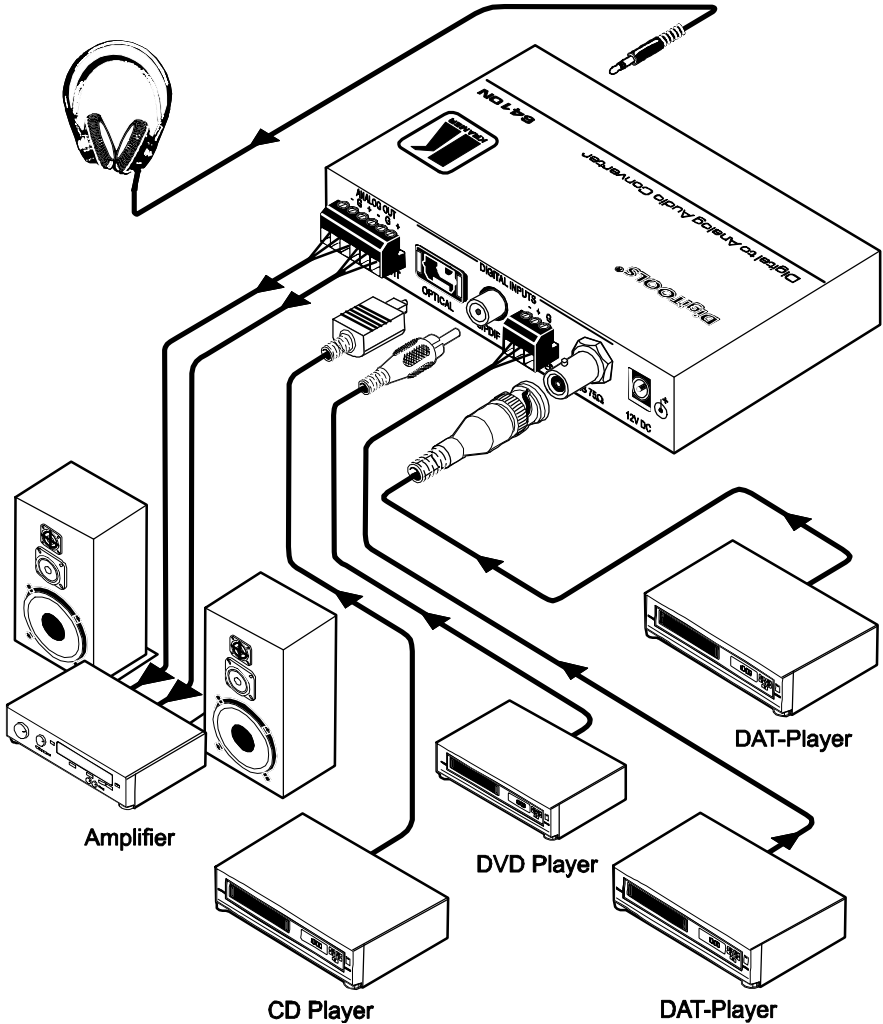

Figure 6: Connecting the 6410N Digital to Analog Audio Converter
To connect your **6410N Digital to Analog Audio Converter**, as illustrated in the example in Figure 6, do the following¹:
3. Connect the 12V DC power adapter to the power socket and connect the adapter to the mains electricity (not shown in Figure 6).